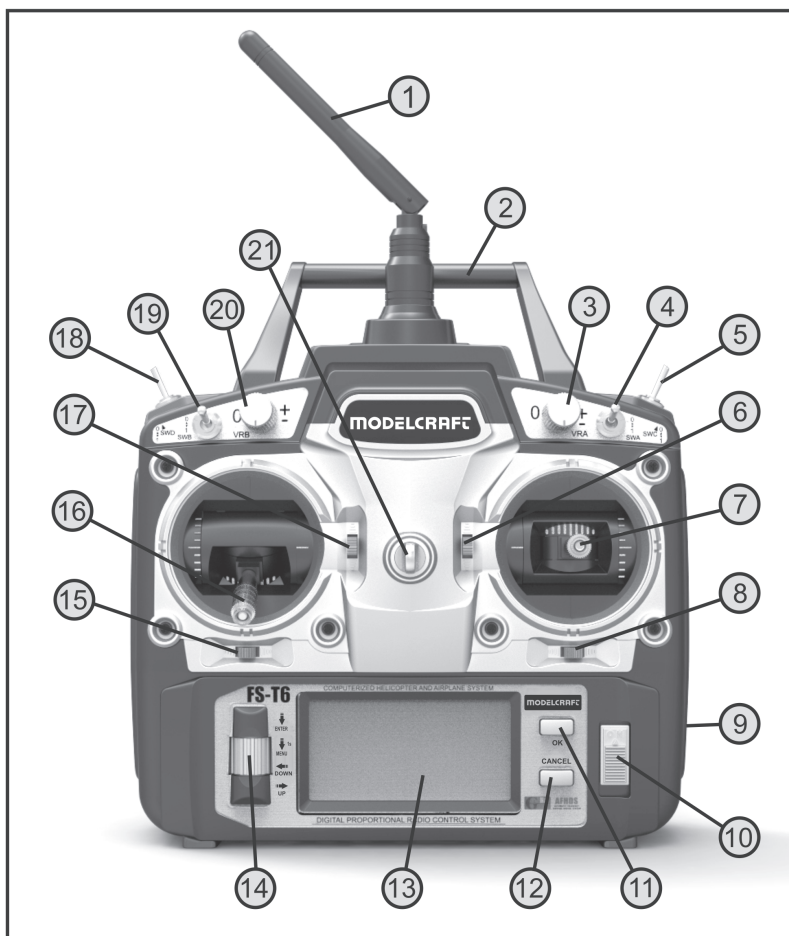

Figure 1
Angle the transmitter's aerial (see figure 1, item 1) to the side, so that the aerial is at a 90° angle to the connection line remote control/model. This is how you will achieve best signal transmission. Avoid directing the tip of the transmitter aerial directly at the model. When the receiver aerial is attached vertically in the model, align the transmitter aerial vertically up as well.
For the power supply of the transmitter you will need 8 alkaline batteries (e.g. Conrad item no. 650117) or rechargeable mignon size batteries (AA). For ecological and also for economical reasons it is recommended to use rechargeable batteries, since they can be recharged in the transmitter via a built-in charging socket (see figure 1, item 9).
Check the position of the toggle switches. All switches should be in the forward or bottom positions. Now switch on the transmitter using the on/off switch (see fig. 1, item 10).
If one of the four toggle switches (see figure 1, item 4, 5, 18 and 19) is not in the front or bottom position, the transmitter will emit warning sounds when activating and the corresponding note is displayed.